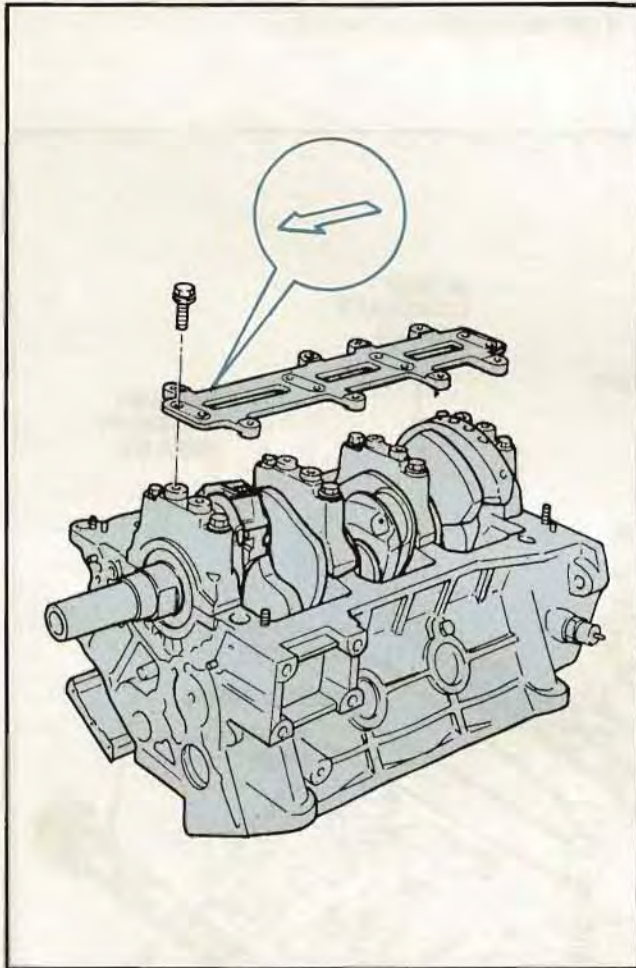

Figure 101. Installing the Crankshaft Bearing Cap Beam
8. Install the crankshaft bearing cap beam on the caps. The directional arrow on the beam must point to the front of the engine (Fig. 101). Tighten the fasteners to 21-32 N·m (15-24 lb-ft).